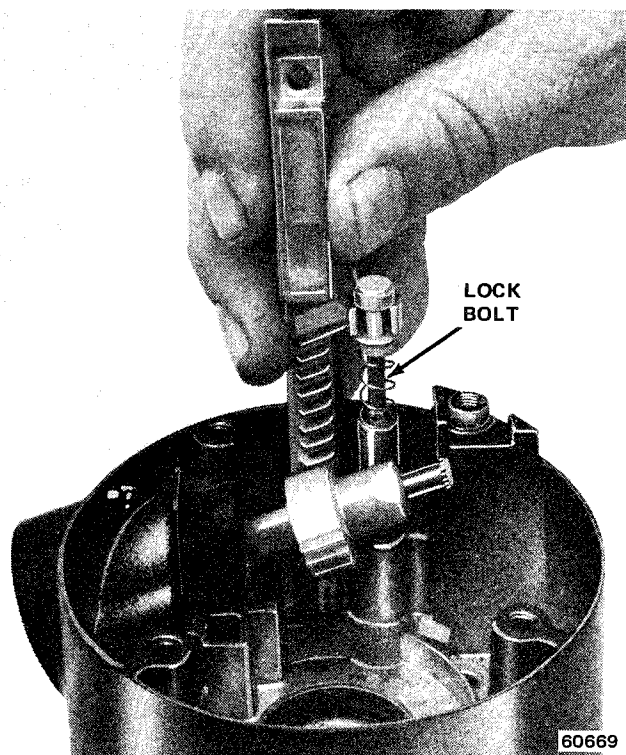

Fig. 2J-13 Lock Rack and Lock Bolt Removal
(25) Remove rack preload spring (fig. 2J-14).